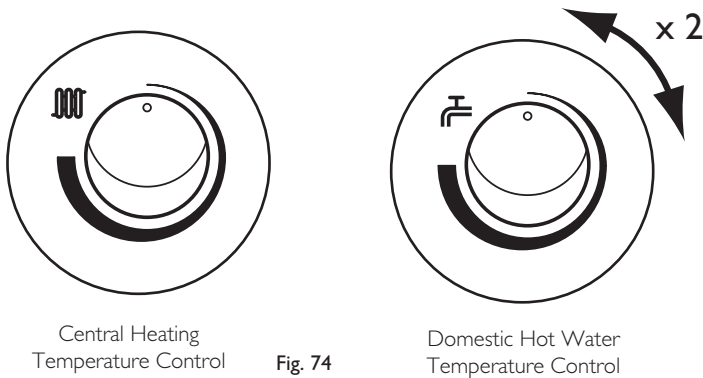

Fig. 74
3. Turn both control knobs fully anticlockwise, then quickly turn the right hand knob 1/4 clockwise twice and back fully anticlockwise (Fig. 74).